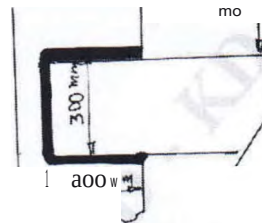

Fig. Q8 (a)
- 8 a. The following Fig. Q8 (a) shows connections of eccentrically loaded welded joint. The allowable shear stress in the fillet weld using MS bar electrodes can be taken as 80 N/mm^2 , find the thickness of the plate. (10 Marks)
- b. A shaft of rectangular cross section is welded to a support by means of fillet welds as shown in Fig. Q8 (b). Determine the size of the weld if the permissible shear stress in the weld material is 75 MPa. (10 Marks)